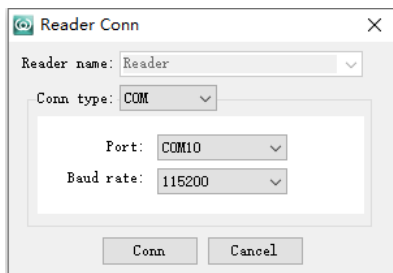
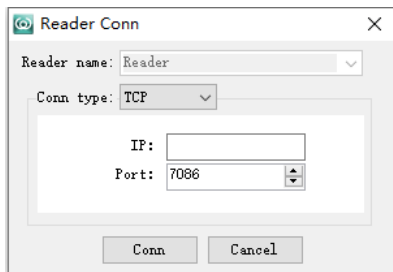
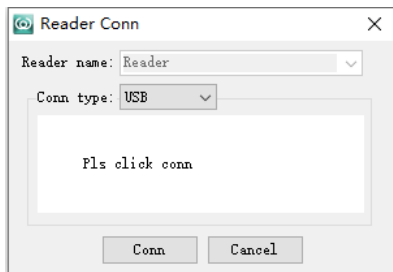

Figure 5-2 Serial Port Connection Interface
Figure 5-3 Ethernet Port Connection Interface
Figure 5-4 USB Connection Interface
Figure 5-2 shows the serial port connection interface, Figure 5-3 shows the Ethernet port connection interface, and Figure 5-4 shows the USB connection interface. This document demonstrates the method of connection through the serial port.
- 2) As shown in Figure 5-2, select the correct COM port and baud rate, and click “Connect”;